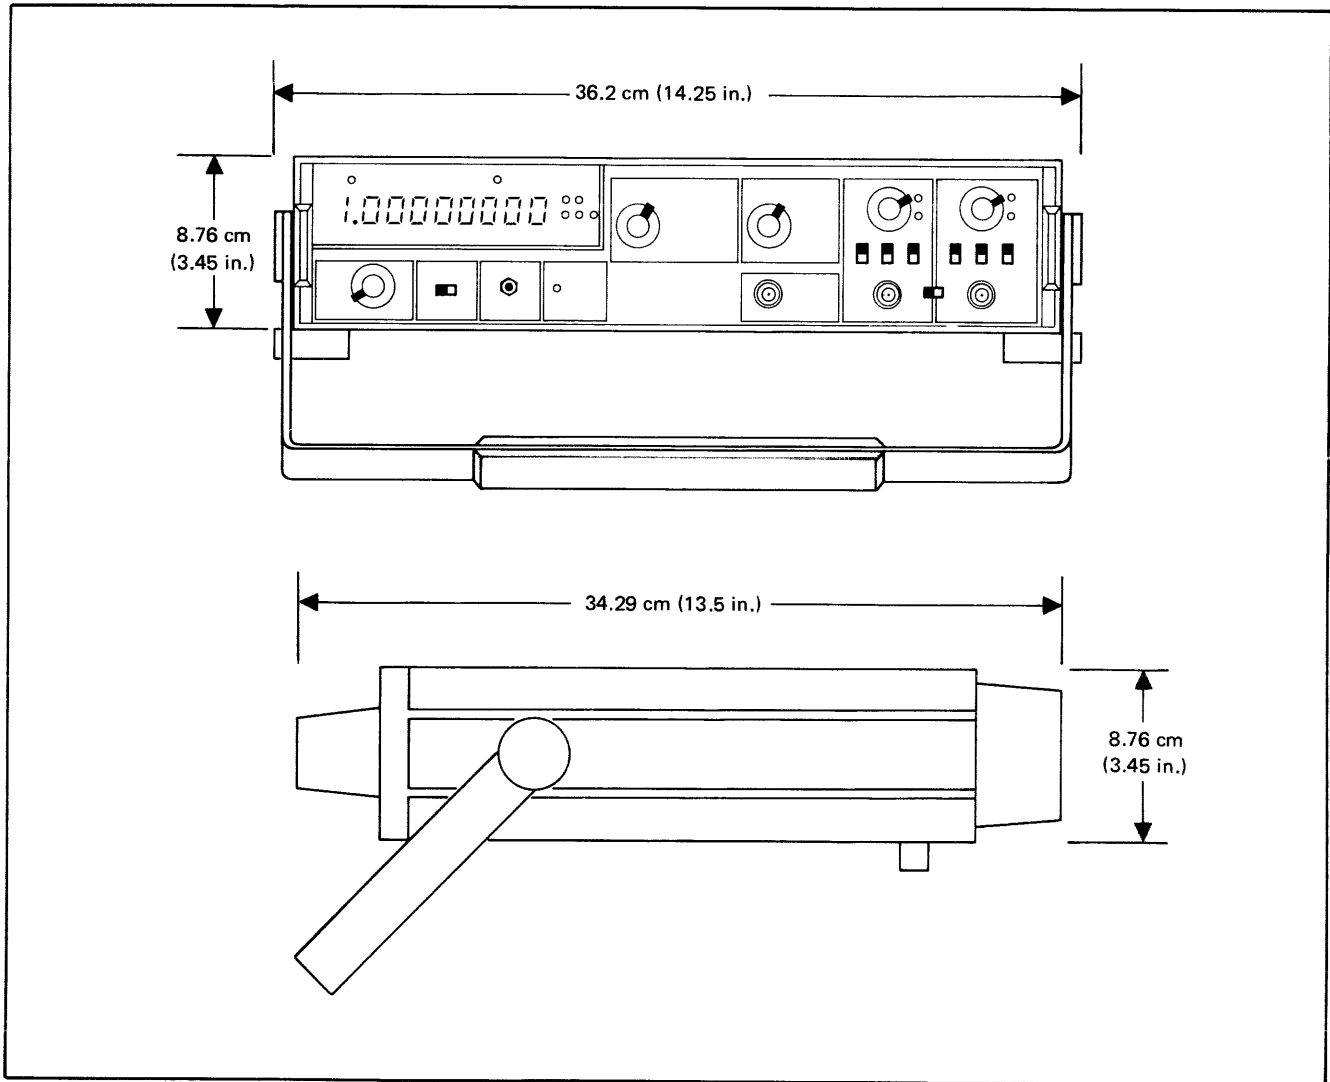

Figure 1-1. Model 1953A Dimensions
**DIMENSIONS** (See Figure 1-1)